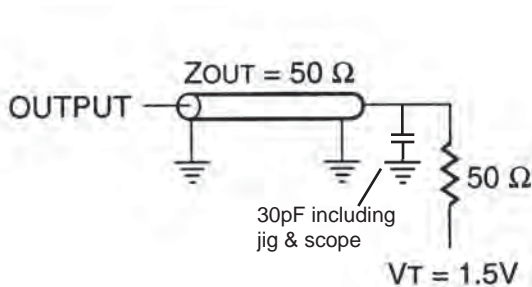

FIGURE 1
1. Test conditions assume signal transition times of 3ns or less, timing reference levels of 1.5V, input pulse levels of 0 to 3.0V and C1 output loading specified in Figure 1.
2. Tested with the C2 load in Figure 1. Transition is measured ± 500 mV from steady-state voltage. Not 100% tested.
Output Load	See Figures 1 and 2
1. Test conditions assume signal transition times of 3ns or less, timing reference levels of 1.5V, input pulse levels of 0 to 3.0V and output loading specified in Figure 1.